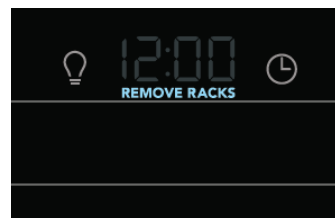

Figure 23: Display prompting user to remove racks
- Do not clean the oven door gasket (Figure 23). The woven material of the oven door gasket is essential for a good seal. Care should be taken not to rub, damage, or remove the gasket.
- Clean any soil from the oven frame, the door liner outside the oven door gasket, and the small area at the front center of the oven bottom. These areas heat sufficiently to burn soil on. Clean with soap and water. These areas are shown in white (Figure 23).